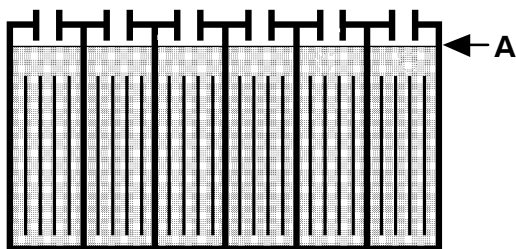

FIG. 24
2. Check fluid level (A) in each battery cell. The fluid level should be 1 cm (3/8 in.) from the bottom of sight tubes after charging. Add distilled water if needed. **DO NOT OVERFILL.** Overfilled batteries can overflow during charging due to fluid expansion (Figure 24).